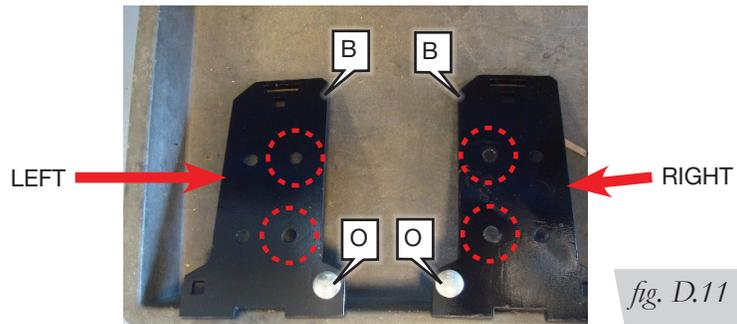

fig. D.11
1. Place a 3/8"-16 x 3" carriage bolt (O) through the inner most square hole on the rear side of each lower bracket (B) (Fig. D.11).